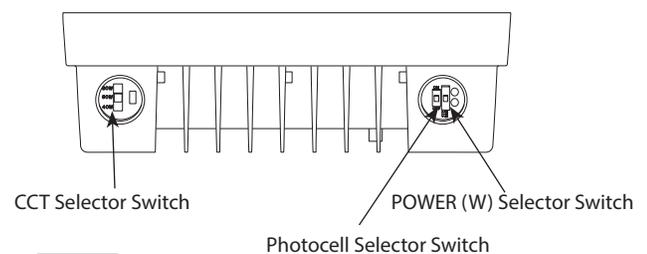

Fig: 4
2. Locate the **Selector Switches** on the fixture (*Fig. 4*).
3. Select **Power (W)** and **Color Temperature (CCT)** by sliding the respective switch to the desired value.